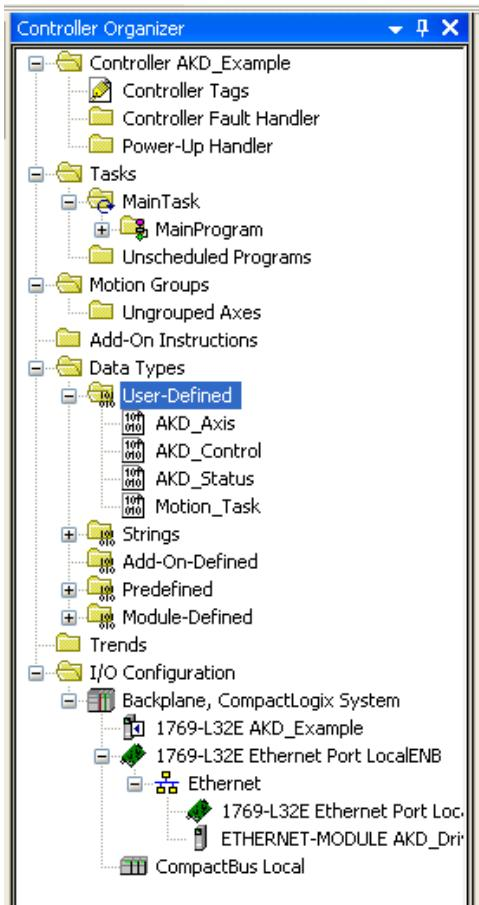

Figure 4-8: Data Types Successfully Imported
4. The data types should now show up under the “Data Types > User-Defined” folder (Figure 4-8: Data Types Successfully Imported)